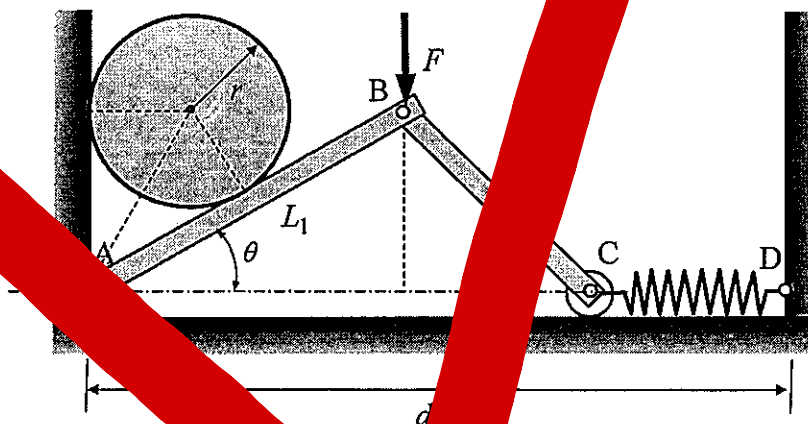

Figure 1
1. This paper contains **FOUR (4)** questions and comprises **SEVEN (7)** pages.
- 1(a) Figure 1 shows the equilibrium configuration of a system where a cylinder of mass M and radius r is carried by a pin-jointed structure consisting of two rigid weightless bars AB and BC, and a spring CD of stiffness k . The bars AB and BC are of lengths L_1 and L_2 , respectively. In the configuration shown, the spring is compressed by the combined action of the weight of the cylinder and the force applied at B. Assume the spring does not buckle. The free length of the spring (i.e. the initial length of the spring before it is compressed) is l_0 . Assume that all the members in the structure except the spring are rigid. Ignore the effect of friction at joints and contacting surfaces.